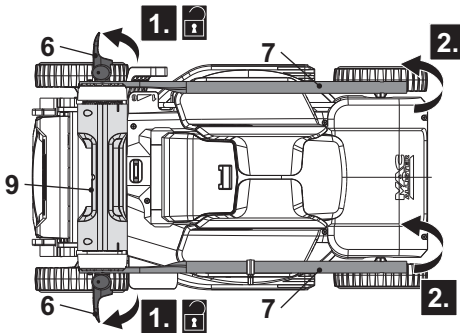

Fig. 1
1. Unfold and loosen the clamp levers (6) anti-clockwise on the lower handle bars (7), but do not remove them (Fig.1, step 1).
2. Grasp the lower handle bars (7) and unfold them from storage position to work position (Fig. 1, step 2).